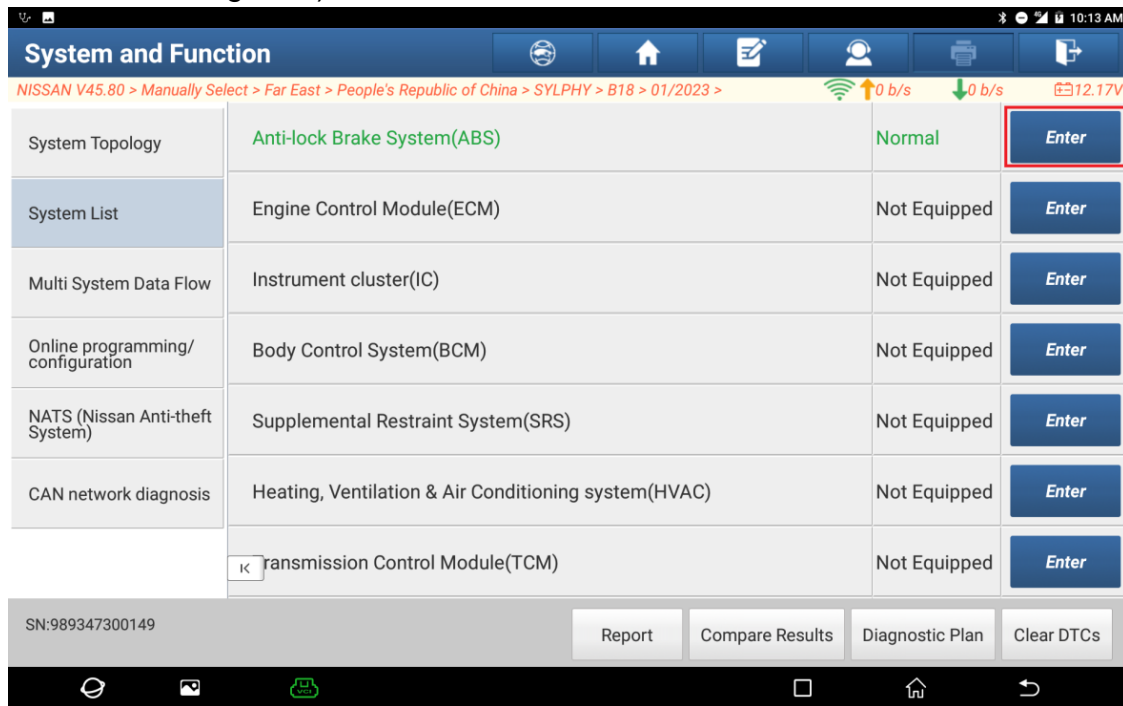

Figure 3
3. Choose [System List] and then choose [Anti-lock Brake System (ABS)] (as shown in Figure 3).